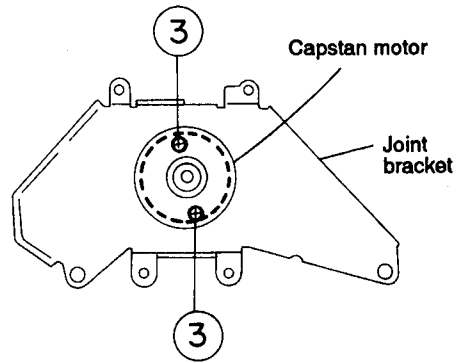

Fig.5-31
■ **Removing the Capstan Motor** (See Figs. 5-31)